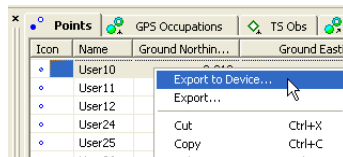

Figure 8-6. Export of the desired data to Device
- Select the desired data and click **Job ▶ Export to Device**, or press **Shift+F4**, or click the **Export to Device** button on the Toolbar, or right-click and click **Export to Device** on the pop-up menu to export desired data to the selected file format and send a created file to a Topcon Device as shown in Figure 8-6.